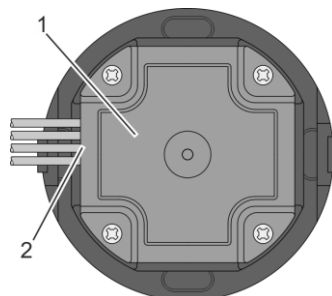

Fig. 8: Rear of the WT 210 with cable
- 5.> Screw rear cover back to WT 210 (Fig. 8/1). When doing this, lead out the cables sideways at the padded cable ducts (Fig. 8/2).